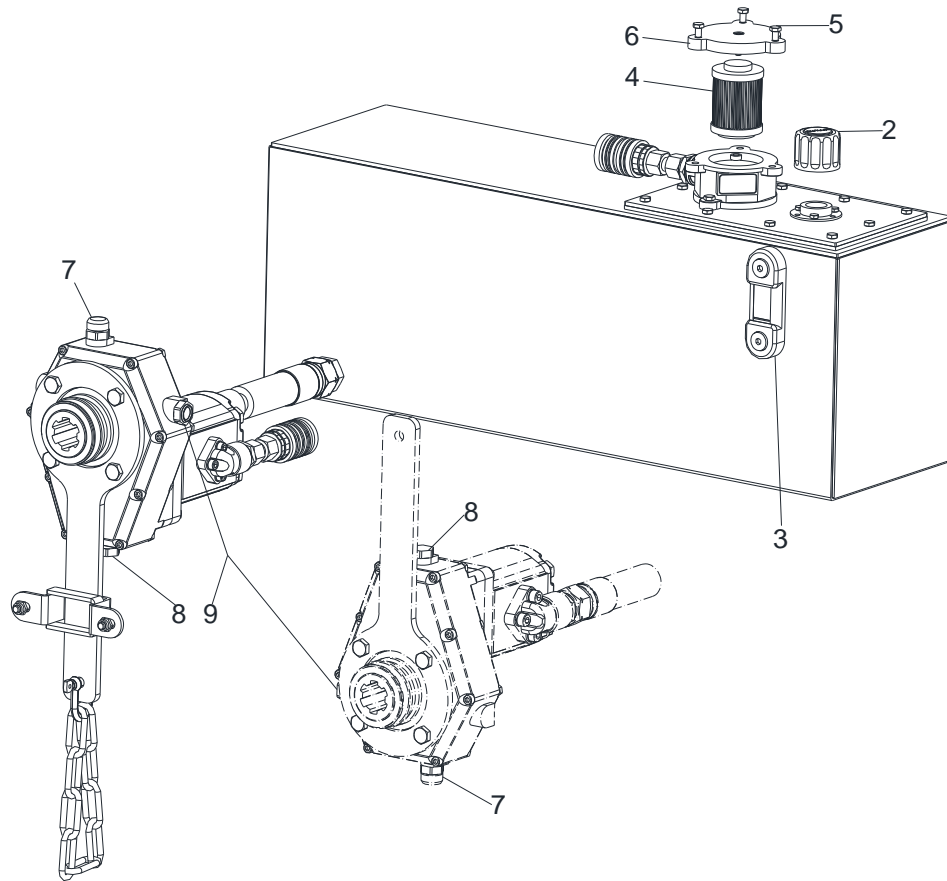

Fig. 48 External oil supply unit DS1200, DS1600, DS3100
1. Unscrew the breather screw (Fig. 48/7).
2. Loosen the drain plug (Fig. 48/8) and drain the oil.
3. Screw in the filler screw (Fig. 48/7) with a new seal.
4. Rotate the pump 180 degrees. Replace the seal on the sight glass (Fig. 48/9).
5. Fill in oil **SAE85-W140** at the drain (Fig. 48/8) up to the height of the sight glass (Fig. 48/3) einfüllen.
6. Screw in the drain plug (Fig. 48/8) with a new seal.
1. Loosen the hose (Fig. 48/1) and drain the oil.
2. Reattach the hose (Fig. 48/1).
3. Remove the cap (Fig. 48/2) from the filler filter.
4. Fill in **Plantosyn 3268 ECO** (Fig. 48/3) up to the middle height of the sight glass.
5. Close the cap (Fig. 48/2).
1. Remove the cover (Fig. 48/6) by loosening the screws (Fig. 48/5).
2. Replace filter element (Fig. 48/4).
3. Reassemble cover (Fig. 48/6) with screws (Fig. 48/5).
- ▶ Replace return filter (Fig. 48/4) every 100 operating hours.